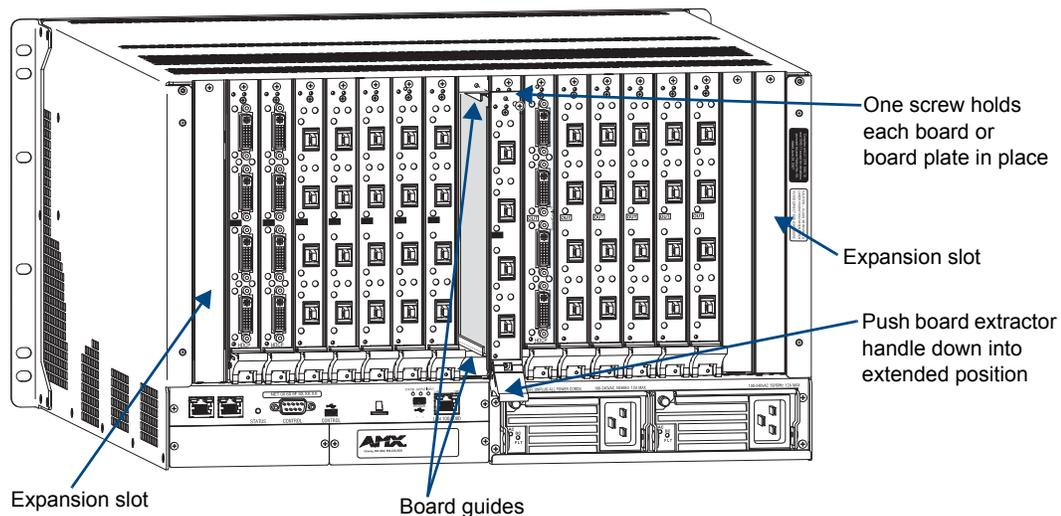
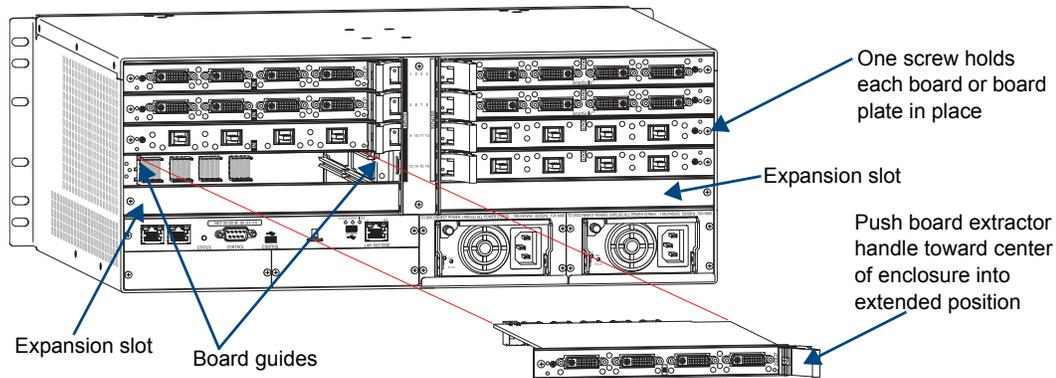

FIG. 129 Enova DGX 32 - Remove screw, push board extractor handle down, and then pull board straight out
FIG. 130 Enova DGX 8 (16/64) - Remove screw, push extractor handle right (input) or left (output), pull board straight out
5. **Remove blank board plate** – Remove the screw that holds the board plate in place (for Enova DGX 32, see FIG. 129; for Enova DGX 8/16/64, see FIG. 130). Pull the plate out of the board slot opening (the tab on the end of the board plate fits in a slot near where the ejector handle would otherwise go). The plate consists of an aluminum sleeve with a black metal piece, which slides in and out of the sleeve, and an EMI (Electromagnetic Interference) gasket.
Remove current board – Remove the pan head screw that holds the board in place (for the Enova DGX 32, see FIG. 129; for the Enova DGX 8/16/64, see FIG. 130). Push on the board's extractor handle as far as it will go (about a 45° angle). With the handle extended, carefully pull the board straight out of the board slot. Place the board in an ESD approved static shield bag and set aside.
AIE Boards can only be installed in an expansion slot (FIG. 129 and FIG. 130).
7. **Install board in Enova DGX 32** – With the board’s extractor handle in the extended (unlocked) position, line up the board’s edges on the board guides that are along the top and bottom of the board slot (FIG. 129).
Install board in Enova DGX 8/16/64 – With the board’s extractor handle in the extended (unlocked) position, line up the board’s edges on the board guides that are along the left and right of the board slot (FIG. 130). Note that input boards have board guides at the top of the slot and board guides for the output boards are at the bottom of the slot due to their reversed orientation in the enclosure.